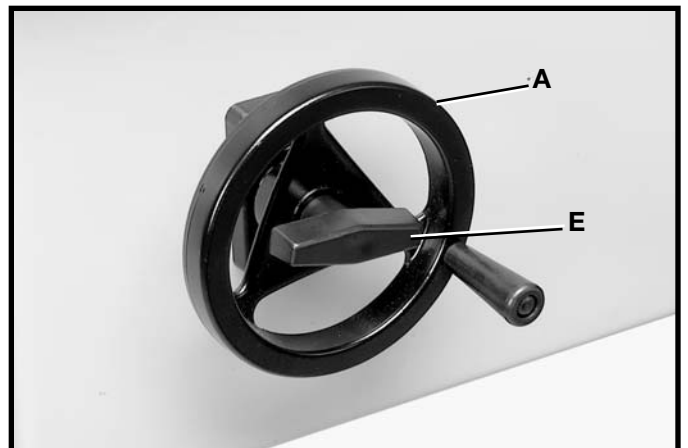

Fig. 11
2. Thread locking lever (E) Fig. 11, into end of shaft (B).
3. Fig. 11, illustrates the blade tilting handwheel (A) and locking lever (E) assembled to the saw.